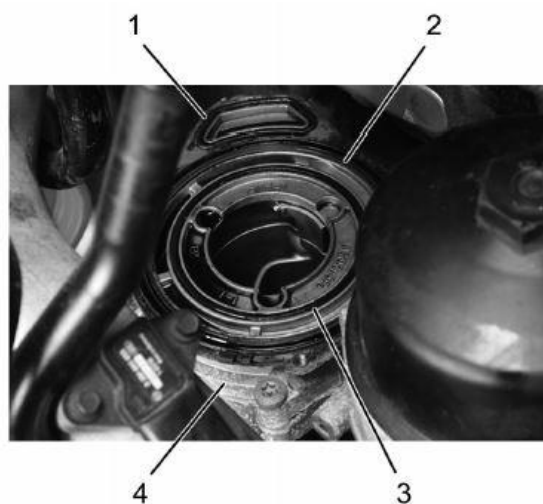

Figure 9: Oil Jet Plate Seals
27. If a new jet plate was not required; remove oil jet plate O-ring (Figure 9, Item 1), oil jet plate seal (Figure 9, Item 2), and oil jet plate O-ring (Figure 9, Item 3) from oil jet plate (Figure 9, Item 4). Discard oil jet plate O-rings and oil jet plate seal.